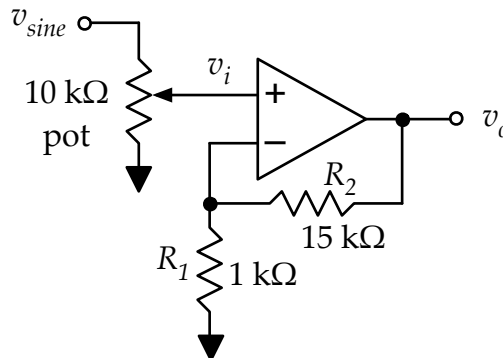

Figure 1.
- Using the circuit of Fig. 1, attach channel 1 of the oscilloscope to the non-inverting terminal of the op-amp and channel 2 to the output. Observe both traces together on the oscilloscope and adjust the potentiometer so that the output sinusoid is not distorted.